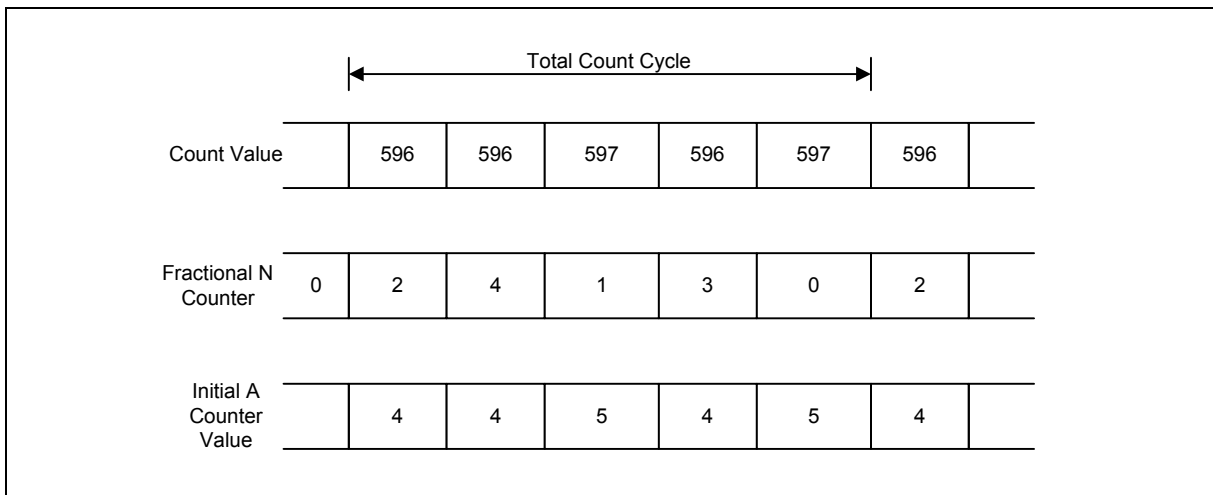

Figure 10 - UHF Synthesizer - Fractional N Operation
An example is shown in Figure 10 for a divide ratio of $596+2/5$. The values for M, A, B are calculated using the integer value (596) as in the previous example. The fractional denominator is programmed as 5 and the fractional numerator as 2. At the end of the first count cycle (596) the fractional counter is incremented to 2. At the end of the third count cycle the fractional N counter overflows, incrementing the A counter by 1 which gives a subsequent count cycle of 597. After five count cycles the sequence repeats with a total count of 2982 over the five count cycle giving a mean value of $596 + 2/5$.